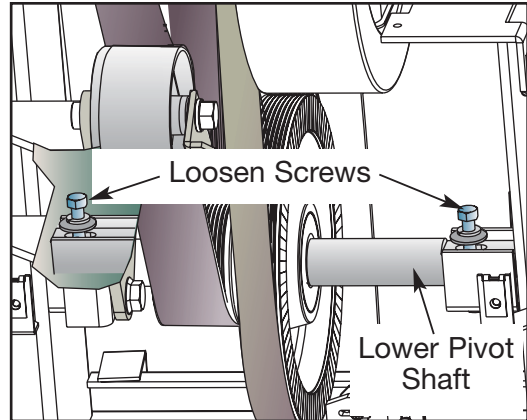

Figure 15
- A.** Using a 7/16" socket wrench, loosen the two screws on the lower pivot shaft until the screws are raised 1/2" (1.25 cm) above the shaft. See Figure 15. **NOTE:** The drive belt tension is now released.